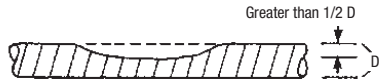

Figure 5.2 Repair Necessary
- The tubing has been significantly crushed or dented (a dent greater than  $\frac{1}{3}$  the diameter of the pipe). (Figure 5.2)